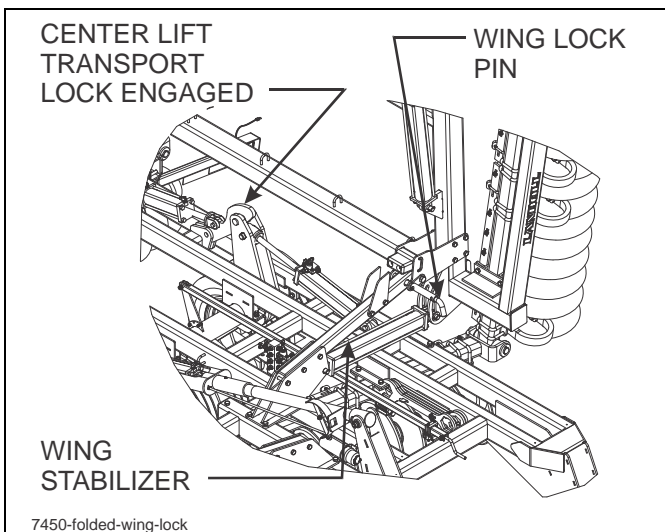

Figure 4-7: Installed Transport Locks
4. When the unit is fully folded, rotate and slide wing lock pins rearward to engage wing lift transport locks (See Figure 4-7.)